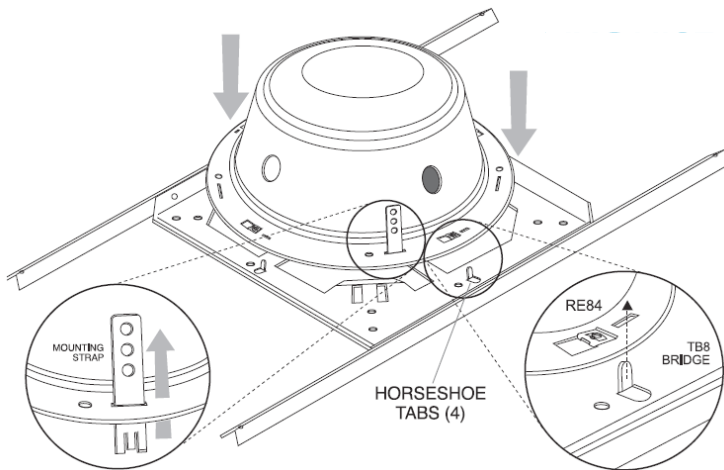

Figure 1
2. If using the optional RE84 Recessed Enclosure, bend up the 4 horseshoe tabs (Figure 1) on the TB8.